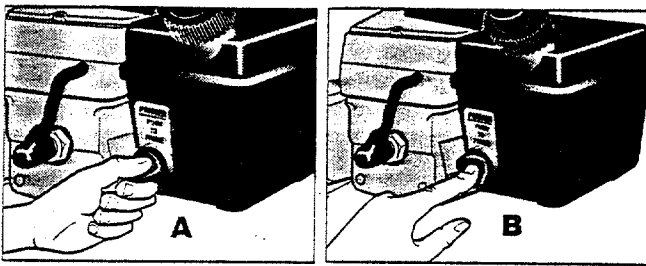

Figure 10: Select the right fuel priming technique: High Volume (A) or Standard Volume (B).
**First Start-** When starting a new engine for the first time, after running out of gas, or after extended storage, use High-Volume priming (see Fig. 10)- squeeze sides of the primer button between thumb and index finger 8-to-10 times. Be sure to align your fingers with the colored line on the housing around the button.
**Cold Start-** If the engine has been sitting (or after brief storage), and still has fuel in the tank, use Standard-Volume priming (Fig.10)-push top of primer button two (2) times if above 55°F, three (3) times if below 55°F.